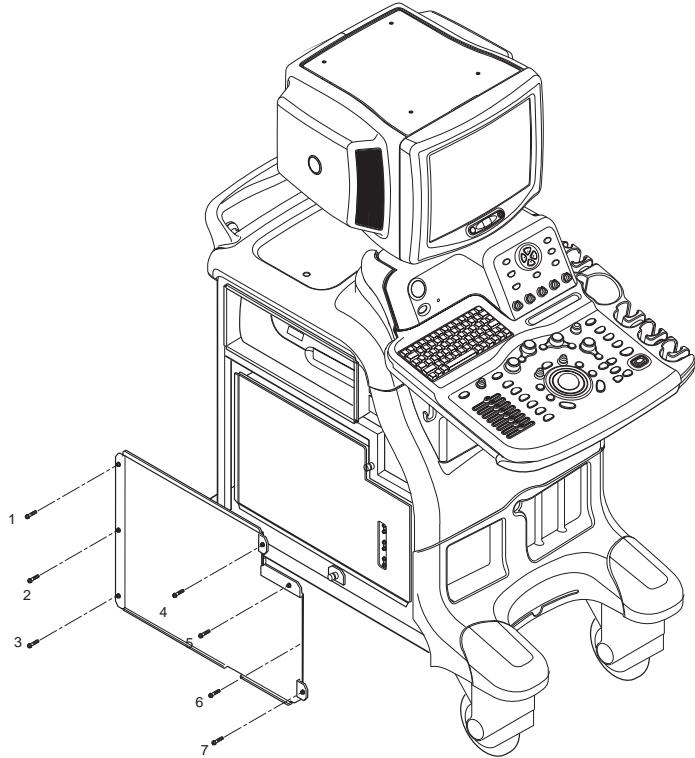

Figure 8-61 Removing the EMI Cover L
- 3.) Remove the EMI Cover L. Refer to Figure 8-61.